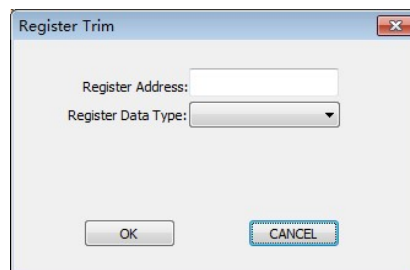

Figure 5.29 Read register input
- Click the "Calibration "->" Register "->" read hold register" to pop up the "register" window, as shown in Figure 5.29: